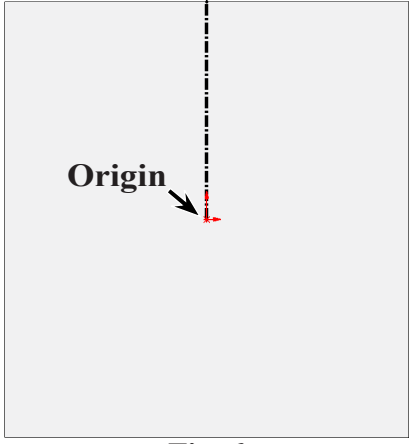

Fig. 6
Step 4. Sketch **vertical center-line up from Origin** , **Fig. 6**.